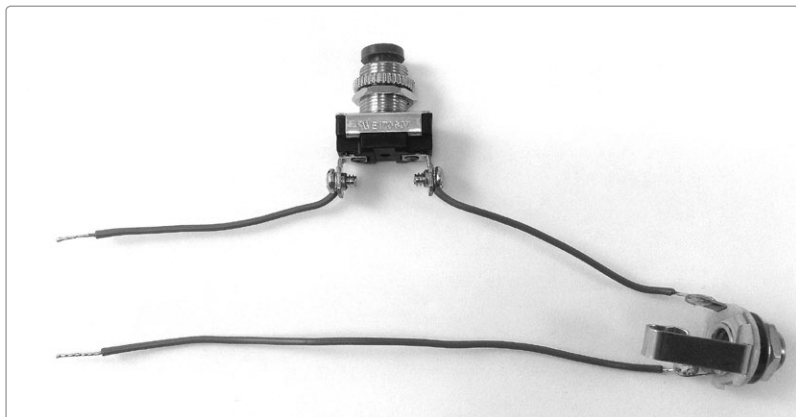

FIGURE 5-7: *The wired cutoff switch*
Step 5 If you’re adding the cutoff switch, you’ll do that now. Switches from the hardware store often have screw terminals (as mine does). If your switch has solder lugs, that’s also fine. What matters is that the switch is a *normally closed* one, meaning it lets electricity through under normal conditions and is momentarily turned *off* by pressing it. (Many everyday pushbutton switches, like doorbells, are *normally open*, which means pushing the button momentarily turns the switch *on*, not off.) Whichever style lugs you have, connect the remaining 3-inch wire to one terminal and the 3-inch wire connected to the jack to the other, as shown in Figure 5-7. It doesn’t matter which wire goes to which terminal.